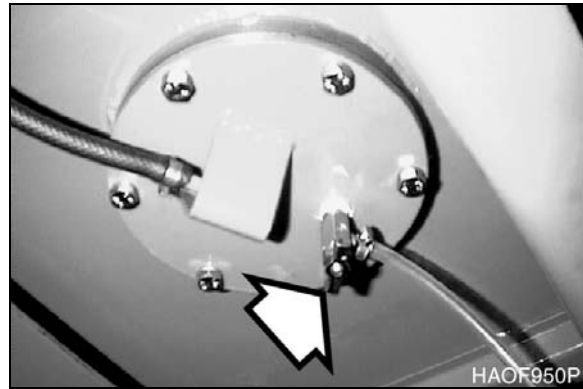

Figure 17
11. Make sure fuel tank drain valve (Figure 17) on bottom of tank is closed.